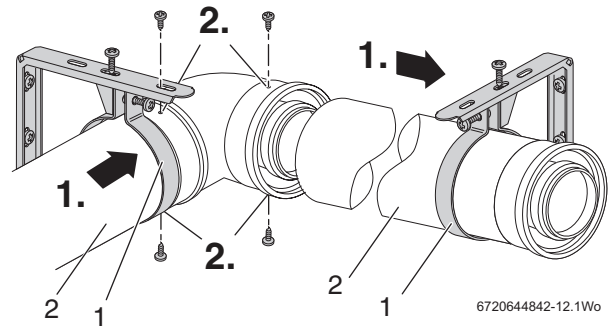

Fig. 23 Extensions
- ▶ Refer to figure 23 and slide the support clamps (1) onto the additional flue extensions (2).
1. Working from the boiler, fit the support clamps (1) and extensions (2), to take the weight of the flue.